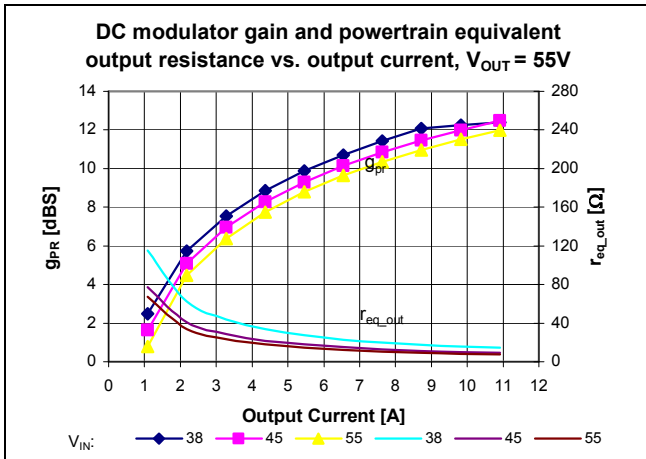

Figure 17 – Powertrain characteristics vs. I_{OUT} ; Resistive load, $V_{OUT}=55V$, various V_{IN}
The powertrain small signal (plant) response consists of a single pole determined by the load resistance, the powertrain equivalent output resistance, and the total output capacitance (internal and external to the module). Both the modulator gain and the equivalent output resistance vary as a function of line, load and output voltage, as shown in Figures 17, 18 and 19. As the load increases, the powertrain pole moves to higher frequency. As a result, the closed loop crossover frequency will be the highest at full load and lowest at
- Modulator Gain g_{PR} : See Figures 17, 18, 19